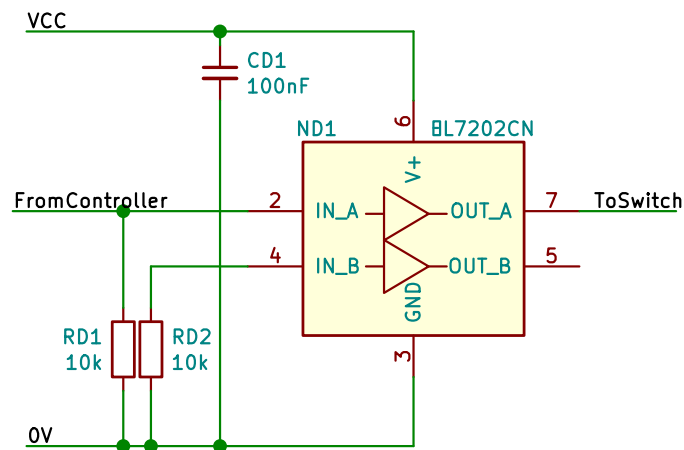
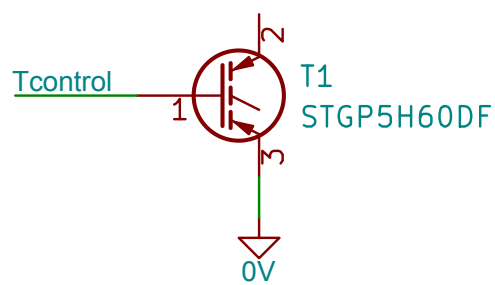
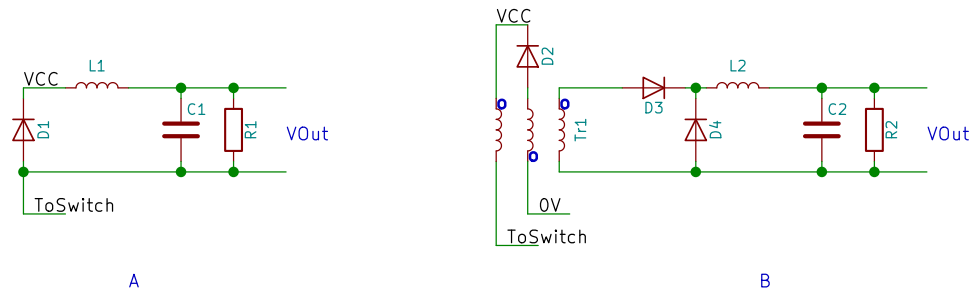
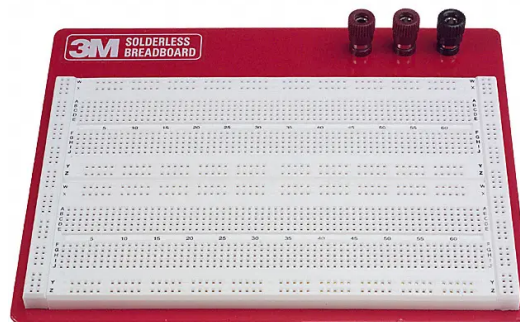

Figure 4: Transistor switch driver (EL7202)
Figure 6: Transistor switch circuit (1-G, 2-E, and 3-C)
Figure 7: Output circuits. A, Buck and B, Forward
Figure 10: Example of a solderless breadboard
a buffer (driver). Often the driver has galvanic separation and circuitry to protect the transistor for instance in over current situations, but we'll use a simple driver to do this. We'll use the EL7202 as shown in Figure 4.
The step-down converter (or Buck converter) is shown in Figure 7,A. Here we'll use a 500uH inductance (the Bourns 5256, see Figure 15). Use a 100uF capacitor (note that the negative terminal, often marked with a line, must face away from the inductance). As a load resistor, use a decade resistor with an initial setting of 29 Ohms. As diode, use the VS-12CWQ10FNPBF (see datasheet in Figure 14).
The forward converter can be based on the parts used in the step-down converter. Use the same diode, inductance, capacitor, and load resistor, but add the transformer (datasheet shown in Figure 16) and an extra VS-12CWQ10FNPBF diode (see datasheet in Figure 14). The circuit must be connected as shown in Figure 7,B. Note the dots on the transformer.
We'll connect the output of the PWM-generator via a driver (as shown in Figure 4) to a transistor switch (as shown in Figure 6 and then to the output circuit in Figure 7, A in the lab and verify the operation. Figure 17 shows details of the PWM-circuit. The load of the output circuit will be a decade resistor load, initially set to 29 Ohms. The circuit can be connected on experiment/prototype boards as shown in Figure 10. Note that the different holes are generally connected in rows on top and bottom and in columns in the middle. Verify connections with the multimeter.
- Connect the driver and the transistor switch (see Figures 4 and 6). Connect the collector of the switch to positive supply through a resistor. Measure the gate and the collector of the switch with a scope. How do they relate?
Build the Buck output circuit as shown in Figure 7,A. Use components as shown in Table ??.
Connect the transformer (type, see Figure 16) between the transistor and the Buck circuit as shown in in Figure 7,B. Use connections 9 & 12 for the primary winding, 8 & 11 for the demagnetizing winding, and 7 & 10 for the output winding. There are two diodes in each VS-12.